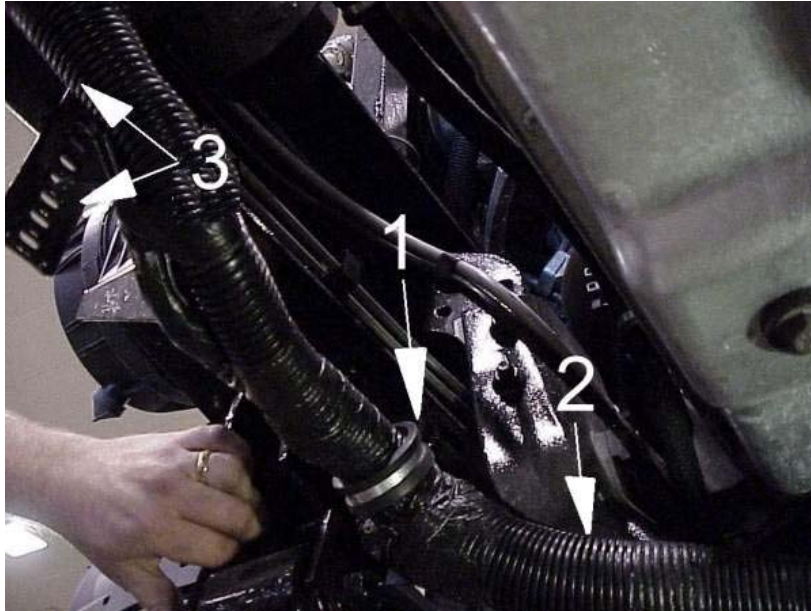
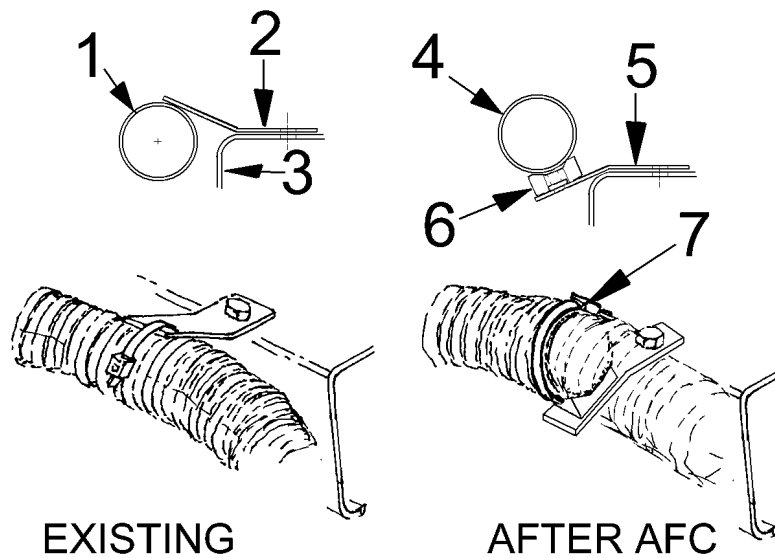

Figure 6 Install Cushioned P-Clip Viewed from Under Chassis
Figure 8 Revised Harness Bracket Orientation
10. On the driver side frame rail behind the cab, locate and remove two (2) cable strap locks from the main chassis harness near the break out harness.
12. Re-install the main chassis harness into the cushioned P-clip (Figure 6, Item 1), before the break out harness (Figure 7, Item 1), and tighten the fasteners .
13. Install a cable strap lock to the main chassis harness to the rear of the cushioned P-clip as shown in Figure 6, Item 3.
14. From under the chassis locate two (2) cable strap locks securing the main harness to the engine crossmember.
16. Remove the fasteners and cable strap lock brackets. Reinstall the brackets so that the bend in the bracket is facing downward (Figure 8, Item 5).
17. Install a saddle to both brackets (Figure 8, Item 6) and secure the main harness with cable strap locks (Figure 8, Item 7). When properly routed the harness should look like Figure 9.